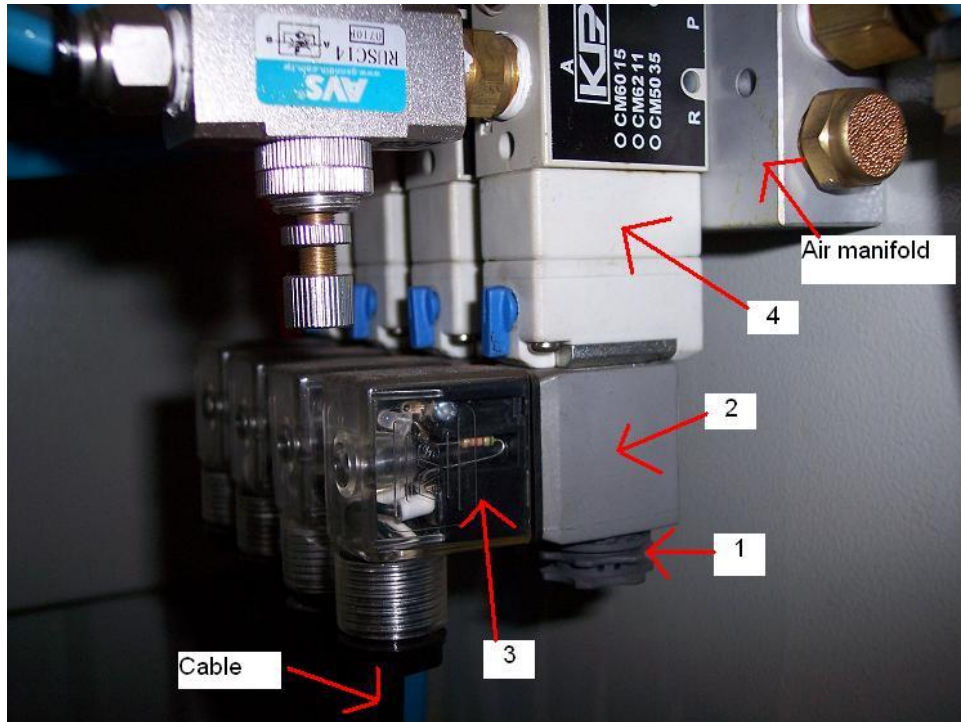

Figure 6.18a
2. Unscrew item 1 to free items 2 and 3 from item 4 the solenoid valve. See figure 6.18a below.
3. Remove the cable from item 3 by removing the screw that holds the plastic clear cover to the relay.
5. Remove item 4 by removing 2 screws that hold it to the air manifold.